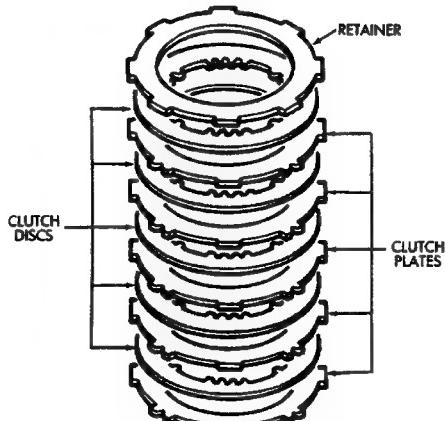
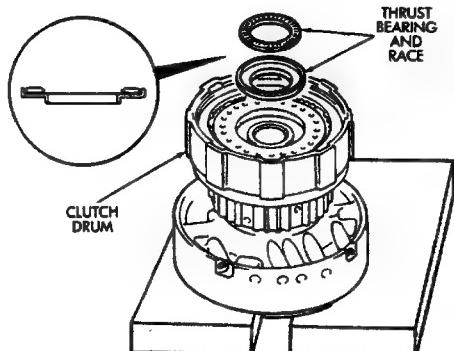

Fig. 15 Installing Forward Clutch Discs And Plates
Fig. 16 Installing Thrust Bearing And Race
(10) Install clutch discs, plates and retainer (Fig. 15). Install tabbed plate followed by disc until required number of plates and discs are installed. Use six plates and discs in a 6-cyl. transmission and five plates and discs in a 4-cyl. transmission.
(11) Install clutch pack snap ring.
(12) Recheck clutch piston stroke length using same method outlined at beginning of disassembly procedure. If stroke length is not within specified limits, replace clutch discs.
(13) Lubricate race and bearing with petroleum jelly and install them in clutch drum (Fig. 16). Be sure bearing rollers face up and race lip seats in drum as shown.